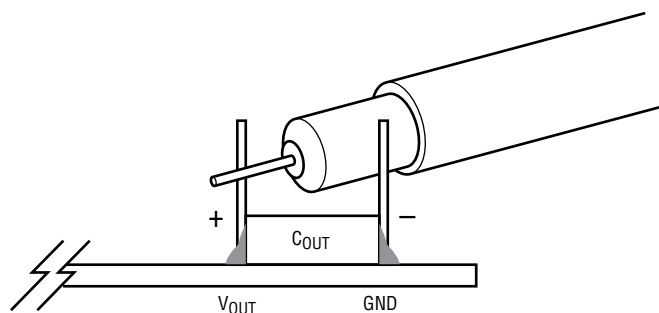

Figure 3. Measuring Output Voltage Ripple
1. When measuring the output or input voltage ripple, do not use the long ground lead on the oscilloscope probe. See Figure 3 for the proper scope probe technique. Short, stiff leads need to be soldered to the (+) and (–) terminals of an output capacitor. The probe's ground ring needs to touch the (–) lead and the probe tip needs to touch the (+) lead.